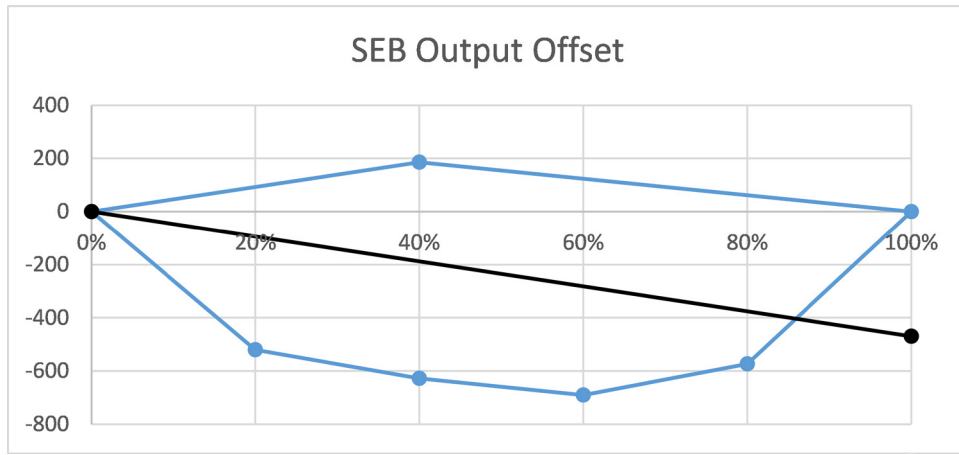

Figure 12
This is a good time to step aside and take a look at the process of calculating the Static Error Band (SEB) Output used for data compensation and how it's used. The torque transducer is calibrated in the factory using standards traceable to a National Metrology Institute (NMI) as described in the calibration section. In this example we will use the CW calibration data from Figure 9. The calibration error from straight line in Figure 12 shows the five points increasing to the Full Scale (FS) and the one point on the return to zero depicting the hysteresis.
The calibration output at 100% of FS defines the ideal calibrated output at 100% of RO. This will typically be within +/-10% of the nominal digital counts of 4.5 million counts at RO. The SEB is defined as the maximum error above and below the ideal calibration line with the same slope as the ideal calibration line. The SEB output line (Figure 12) is therefore defined as the line from zero that is so positioned as to have equal maximum error above and below the line. By definition the line extends from zero to the SEB Output. The line considers both ascending and descending calibration points.